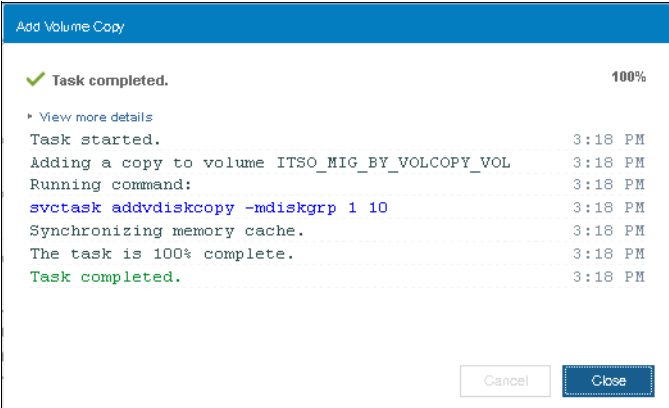

Figure 6-60 Volume Copy task completed
3. You will get a confirmation window as shown in Figure 6-60.